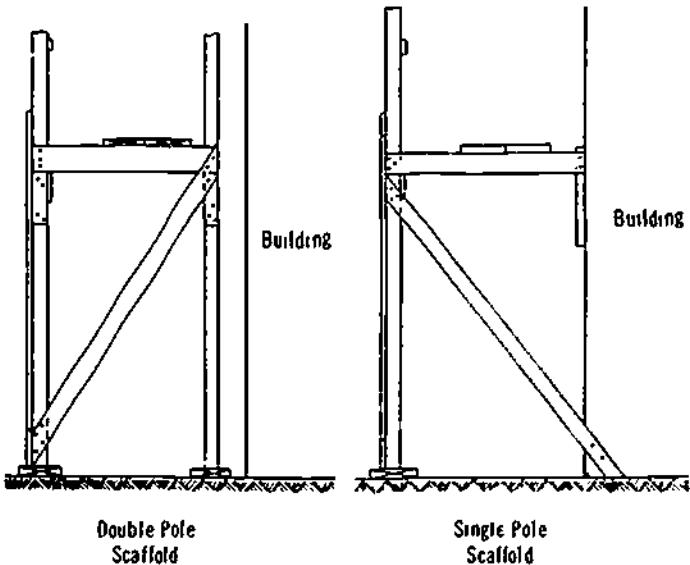

Figure 2-31. Two Scaffold Configurations
c) Plumbers are not normally involved in the erection of high wooden scaffolds, but often might have to erect simple scaffolding as shown in Figure 2-31. The scaffold must conform to Workers' Compensation Board regulations in all respects, including the sizes of lumber used for legs, braces, and planks; as well as conforming to requirements governing fastening devices and safety features.
Figures 2-31 to 2-33 show examples of scaffold construction that must conform to Workers' Compensation Board regulations.